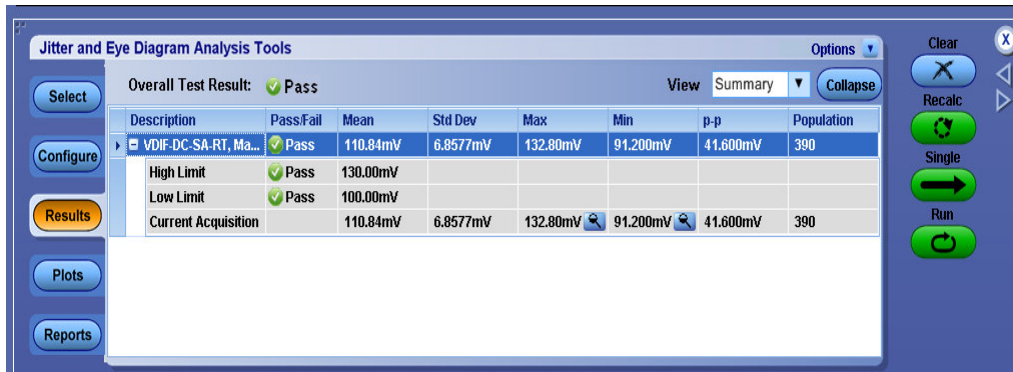

Figure 3: VDIF\_DC\_SA\_RT\_TX Measurement
3. Click on **Single Run** and verify the result as shown below in Figure 3.